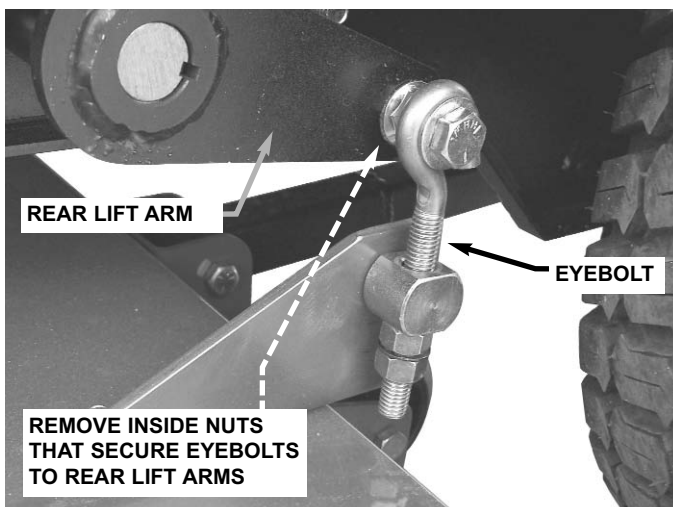

FIGURE 4.11
7. Remove inside nuts that secure eyebolts to rear lift arms. See Figure 4.11.